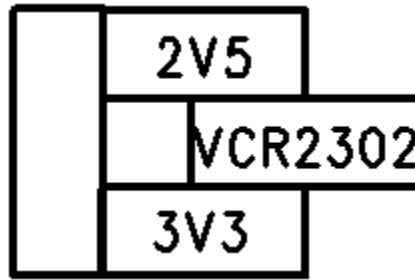

Figure 1-4 Power jumper
- 1) **Mark 10:** Power supply selection module of motherboard, shown in Figure 1-4.